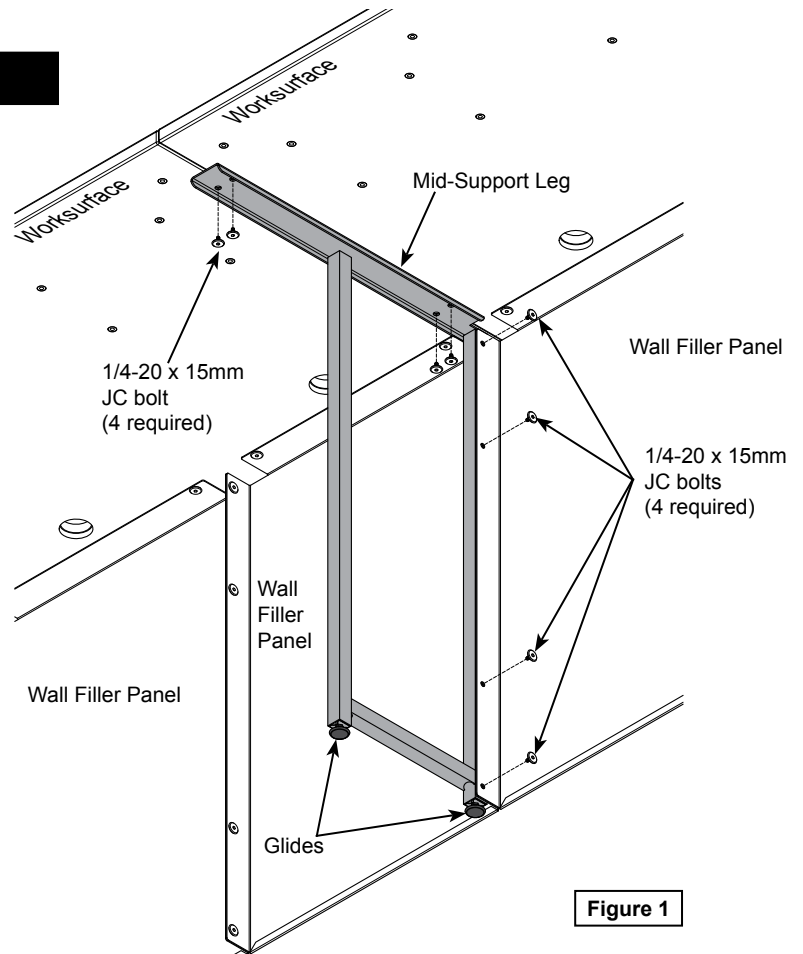

Figure 1
1. Install the (2) glides onto the mid-support leg. **Figure 1.**
1. Align the mid-support leg and wall filler panel mounting holes as shown. **Figure 1.**
2. Attach the mid-support leg to the wall filler panels with (4) 1/4-20 x 15mm JC bolts. (Note: These bolts come with the wall filler panels).
4. Attach to worksurfaces with (4) 1/4-20 x 15mm JC bolts.